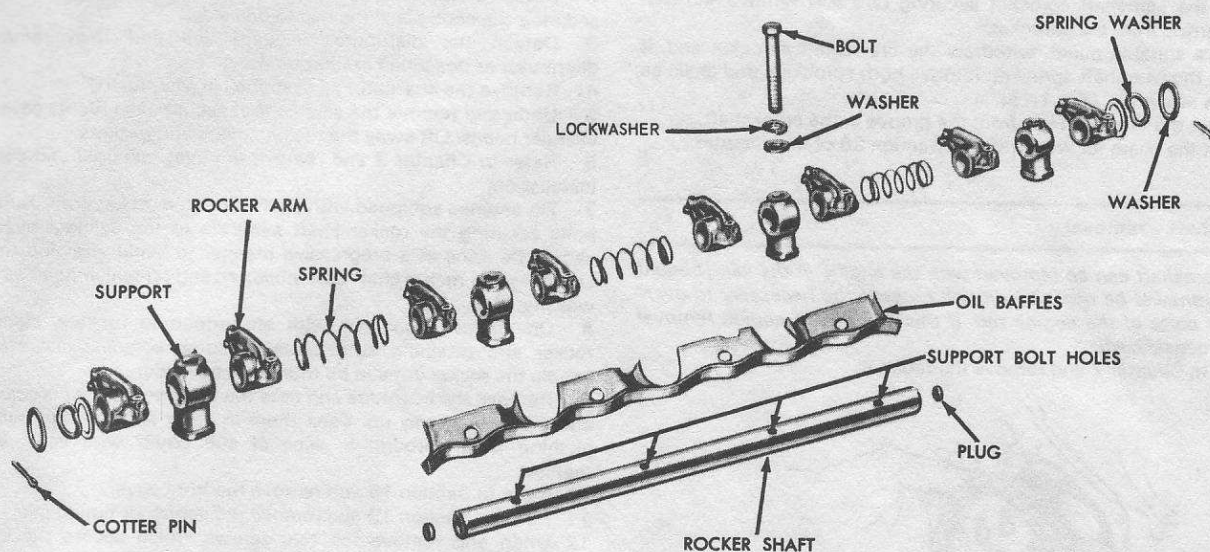

Fig. 1.16 Shaft-mounted rocker assembly used on the 390, 427, 428 and Boss 429 engines (Sec. 13)
- 3 Referring to Fig. 1.16, withdraw the washers, rocker arms, supports and springs from the shaft. Keep all the components in the correct order of removal so that they can be re-installed in their original positions.